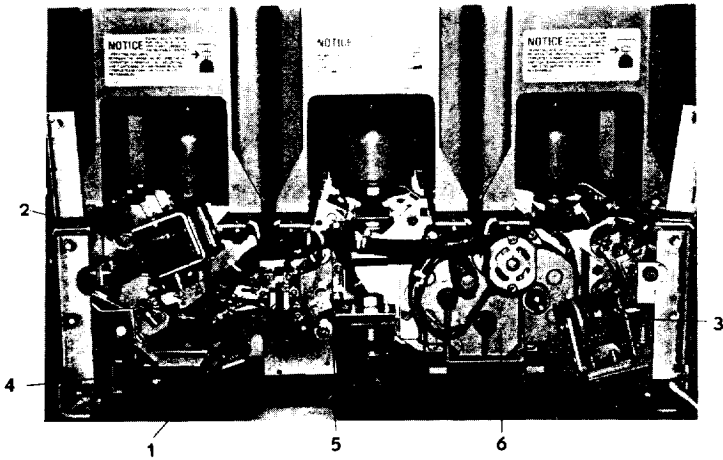

Fig. A7 Front View — Front Angle Plate Removed Electrical Components
Remove the breaker front plate to gain access to the 52Y relay. Remove the wires to the 52Y relay, (1) Fig. A7, (and resistor if used). Remove the relay by removing the two bolts which hold it to the mounting plate.
With the closing spring discharged and the breaker open, remove the breaker front angle plate to gain access to the spring charging motor, (6) Fig. A7.
Remove the breaker front cover, and Y relay mounting plate and the front castor wheel for access to the auxiliary switch. Remove the wires and metal jumpers from the auxiliary switch, (5) Fig. A7.